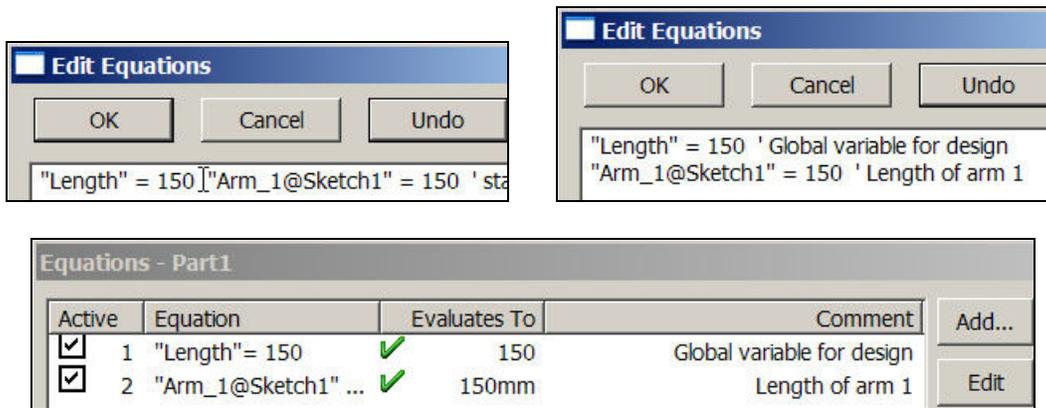

Figure 5 Inserting a global design variable in front of an equation
- Place the cursor at the very front of the first equation. Type in the name, say “Length”, value, = 150, and a description of the first global design constant and enter return (Figure 5, top).